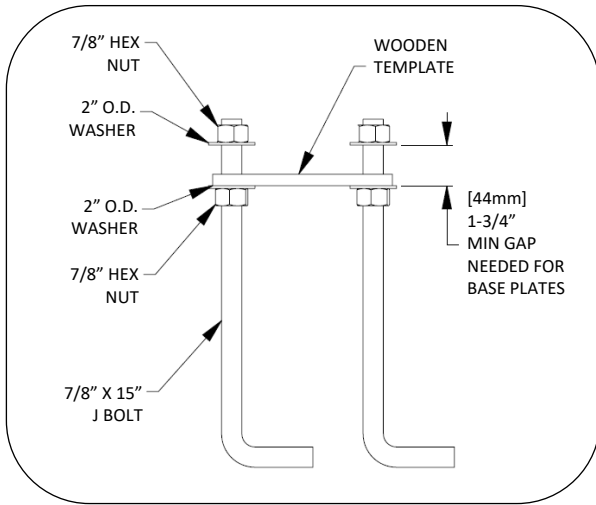
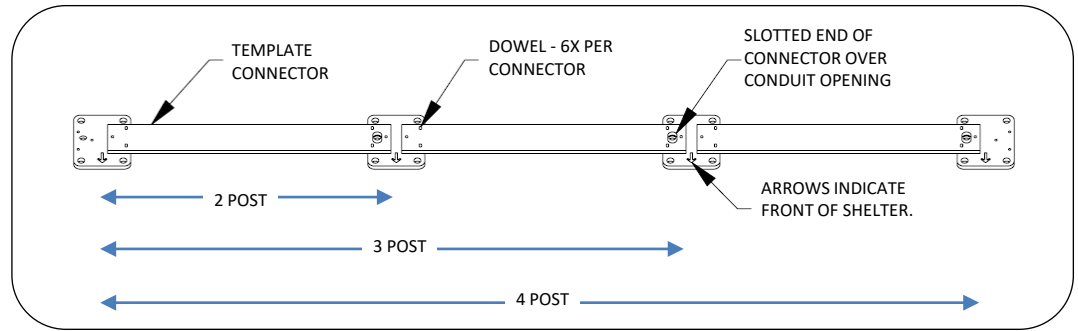

FIG. 1 – ASSEMBLE ANCHOR TEMPLATE
FIG. 2 – ASSEMBLE ANCHOR TEMPLATE (MULTI-POST SHELTERS)
1. Assemble anchor kit and anchor template as shown in Fig. 1. Multi-post units ship with additional roof connecting components and anchor template components. For 2, 3 and 4 post shelters, refer to Fig. 2 for anchor template assembly. Use a straight level or laser to verify anchor template is square and straight.